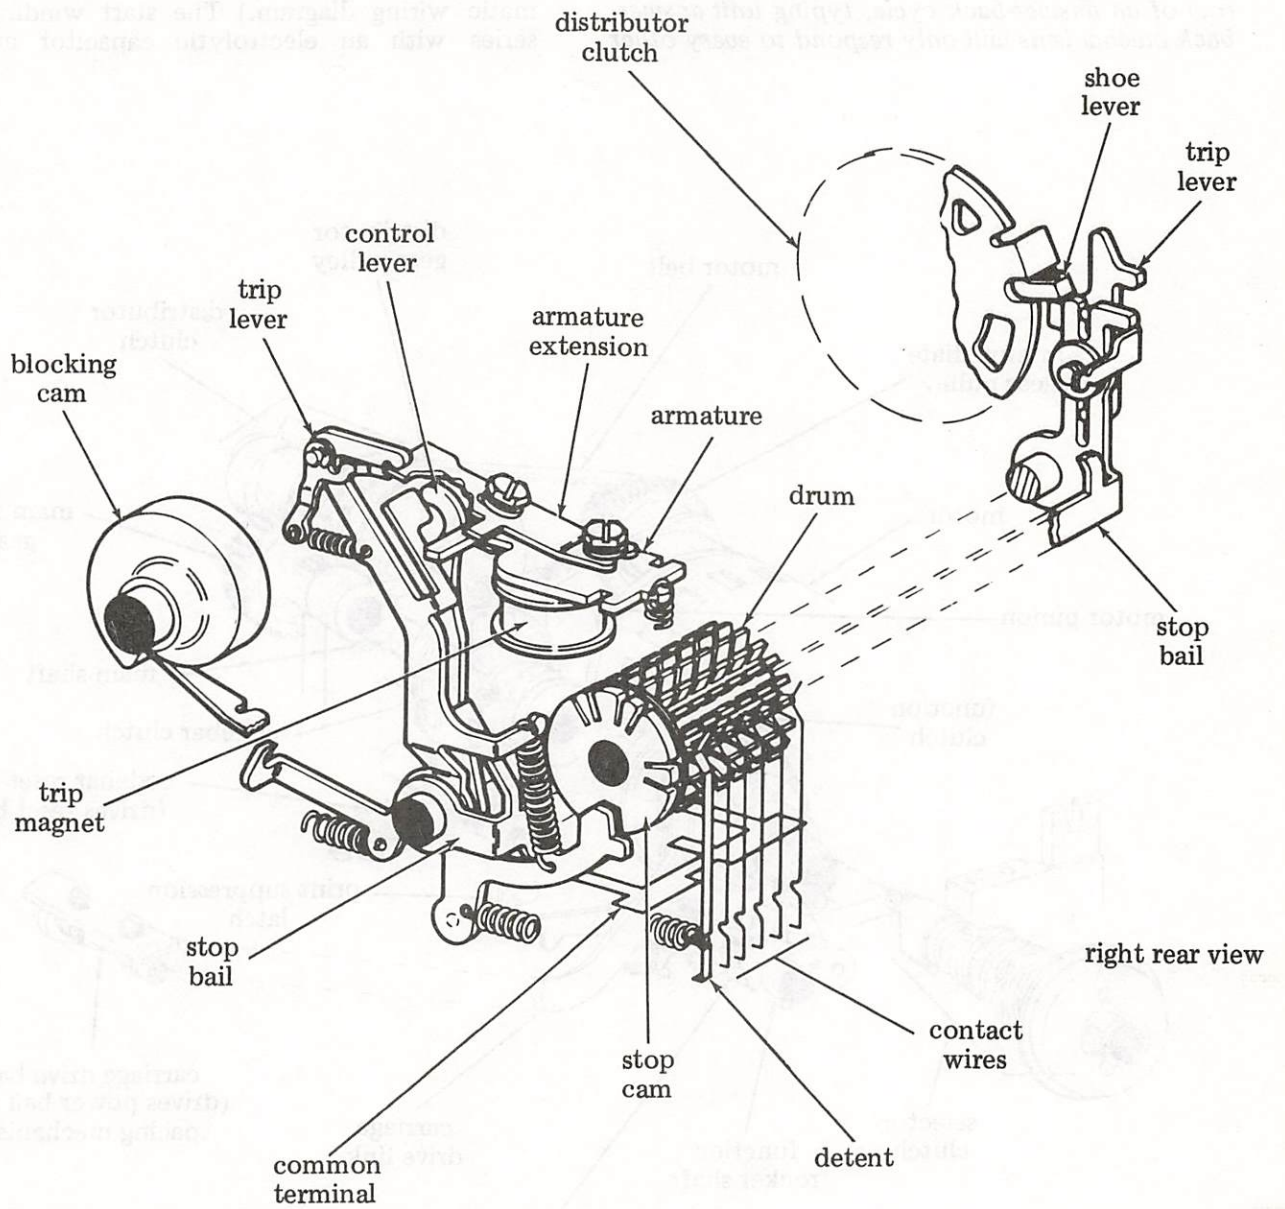

Figure 14 - Answer-Back Mechanism Automatic Actuation
C. Automatic Actuation (Figure 14)
D. Local Actuation (Refer to Figure 14)